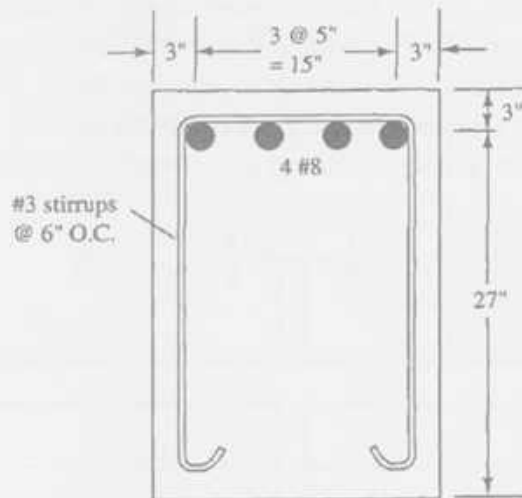

Figure-5
6. a) Write down the ACI specifications for determining the effective width of T-beams and L-beams. (4)
b) Define development length. Mention the factors influencing development length of deformed bars in tension. (6)
c) Determine the tensile development length required for the uncoated #8 bars shown in Figure-5 if normal weight concrete is used and the bars are straight. Use ACI Equation and compute value of K_{tr} . $f'_c = 4000$ psi and $f_y = 60000$ psi (10)